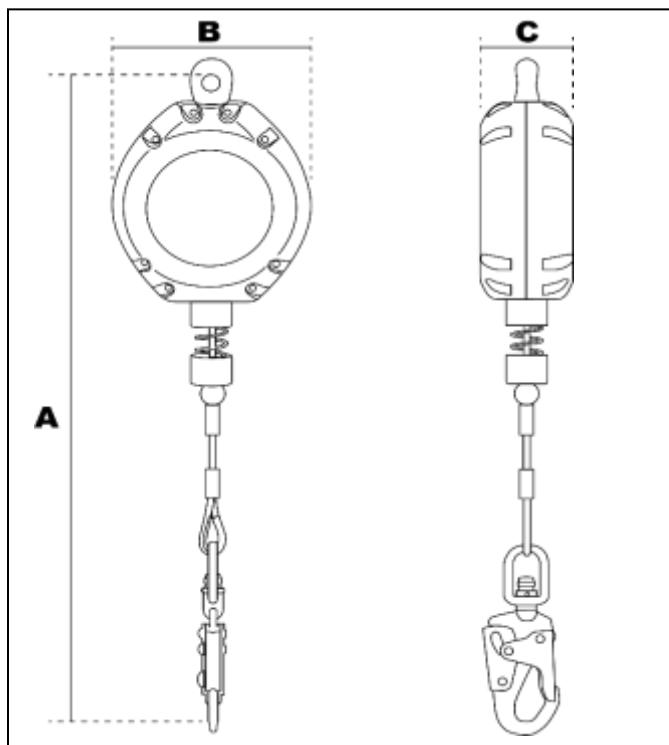

Figure 2.1: Ritz Safety Cable self-retracting lanyard
3.2 TYPES OF SRD: Refer to Appendix A for unit specifications. Figures 2.1 and 2.2 below indicate the types of models covered by this manual. They include:
- **SELF RETRACTING LANYARDS:** Are suitable for overhead anchorage (ie: from directly above the user's head to as low as the dorsal d-ring on the user's FBH), where the lifeline remains generally vertical during use, and free fall limit is 0.6 m (2 ft). Refer to Figure 2.1 below.
Table 1A: Unit Specifications Refer to Figures 2.1 and 2.2 for definitions of A, B, and C